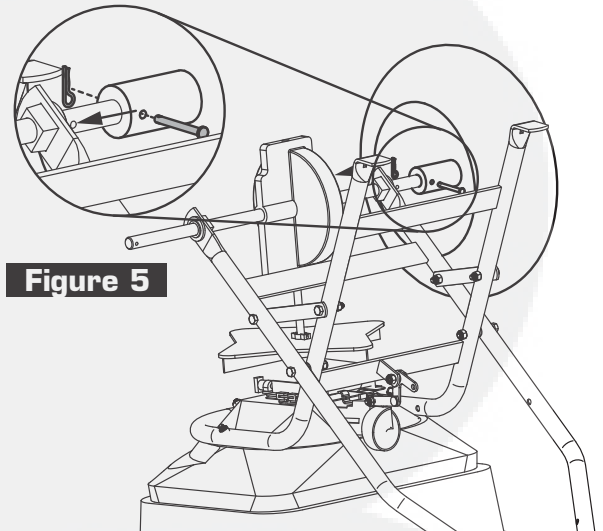

Figure 5
5. Locate the hole on Axle closest to the Axle Bearing and Washer. Install Wheel (valve stem out) onto Axle as shown in Figure 5. Line up the hole on the wheel with hole on the Axle shaft. Push Clevis Pin through the hole and pin in place using the Hair Pin.